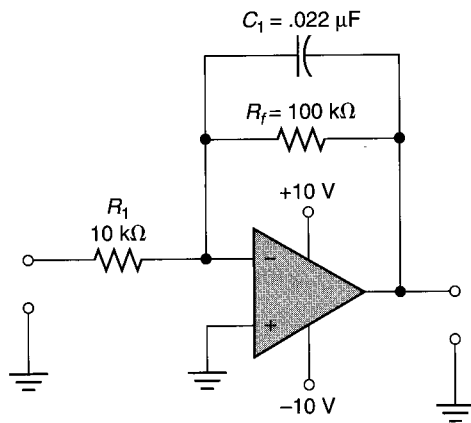

FIGURE 16.39
7. Determine the cutoff frequency of the circuit shown in Figure 16.39.
8. Determine the frequency at which the circuit shown in Figure 16.39 will start to lose its linear output characteristics.